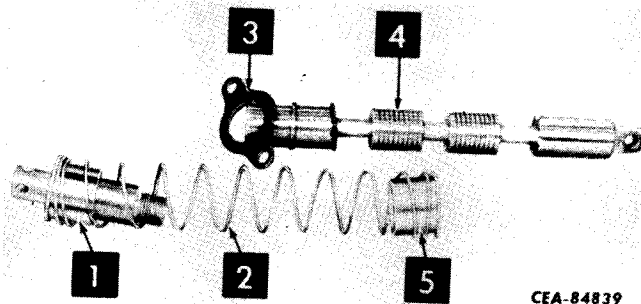

Figure 11-48
Remove plunger pin (1, Fig. 11-48), spring (2), spring seat (5) and seal plate (3) from plunger (4). Exert pressure against the plunger pin as it disengages the plunger and release the spring tension slowly.
Install spring seat (5, Fig. 11-48) on plunger (4) against seal plate (3), insert plunger pin (1) through remaining spring seat and into plunger